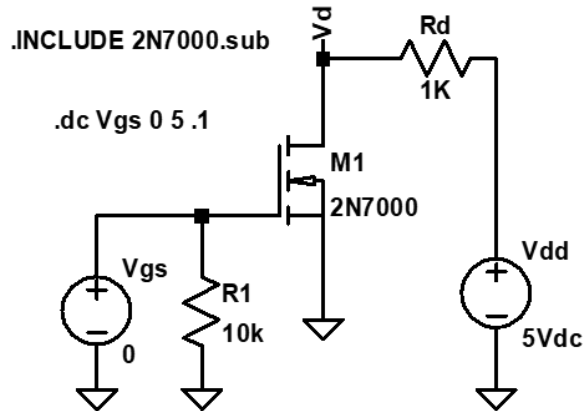

Figure 3 Inverter
3. Simulate in LTspice the NMOS Inverter shown below (figure 3). Instead of varying the drain-source voltage, vary the gate-source voltage. Use the DC sweep to vary the gate voltage V_{GS} from 0 to 5V step = 100mv and plot this versus I_D , and V_{DS} with supply voltage $V_{DD}=5$ volt . Turn your graph in. What is the V_{TN} voltage (just starts to conduct) for the 2N7000? How does this compare with $1e$?
Build the MOSFET Inverter circuit, **figure 3, on LTspice** that you used in the pre-lab. Change the input V_{gs} to a pulse with $V_{initial} = 0V$, $V_{on} = 5V$, $T_{rise} = T_{fall} = 10\mu$, $T_{on} = 0.5m$ and $T_{period} = 1m$. This will give you a 0V – 5V volt square wave as your input. Run a transient simulation and plot the voltage V_d and the current I_d to display 2-5 cycles. Answer the questions on the lab datasheet and include your plot.